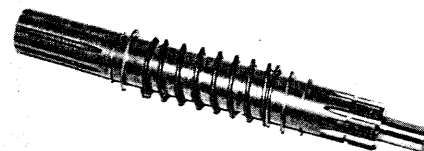

Figure 6 Assemble disconnect spring
**STEP 6** Assemble a snap ring in one of the grooves of input shaft. Assemble a washer, spring, a second washer and a second snap ring in the other groove of input shaft, (Figure 6). Some shafts have a shoulder and require only one snap ring. ▶